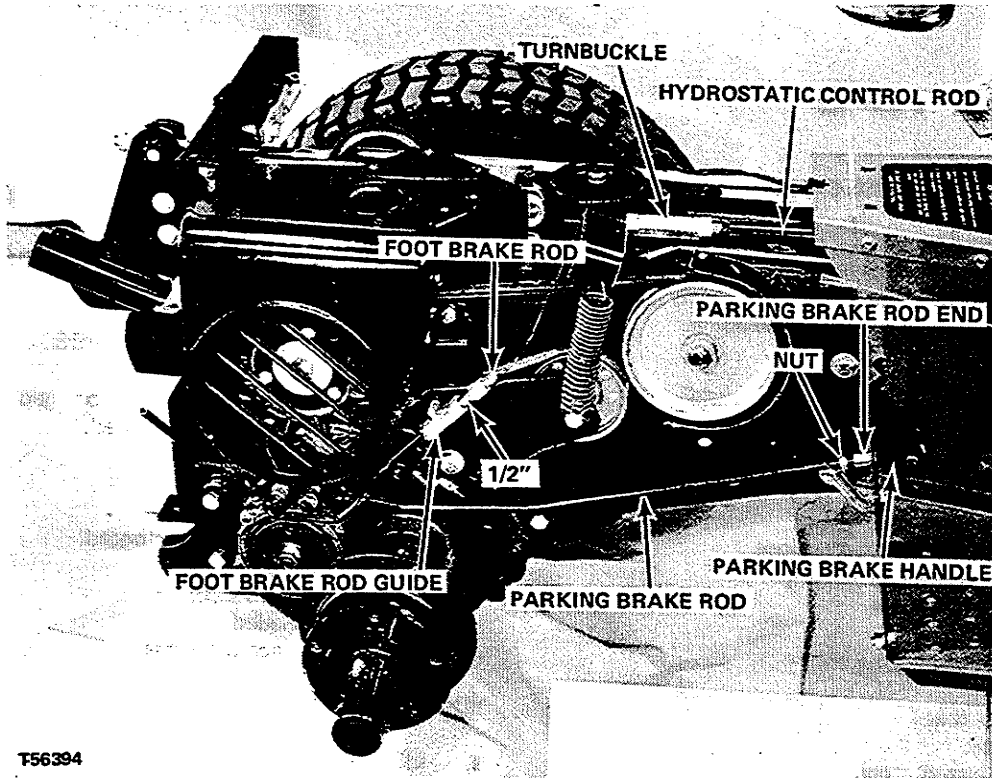

FIGURE 27
1. (Figure 27), loosen nut from rod end at front of parking brake rod. Turn parking brake handle and
2. With parking brake tight adjust jam nuts on end of foot brake rod to provide 1/2 inch clearance to rod guide (Figure 27).
control so that the actual neutral condition does occur when control lever is on neutral notch (Figure 27).